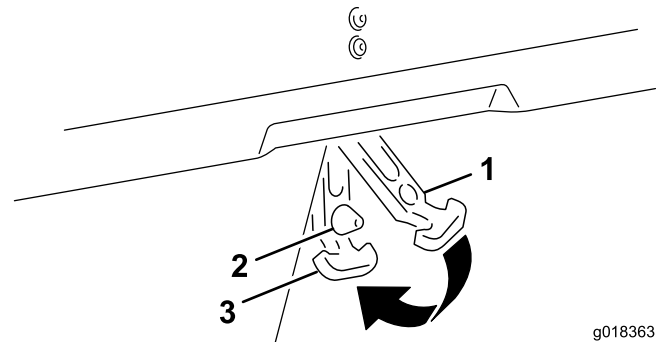

Figure 14
7. Align the hole in the rubber hood latch with the hood rod (Figure 14).
8. Push the hood latch over the end of the hood rod as shown in Figure 14.